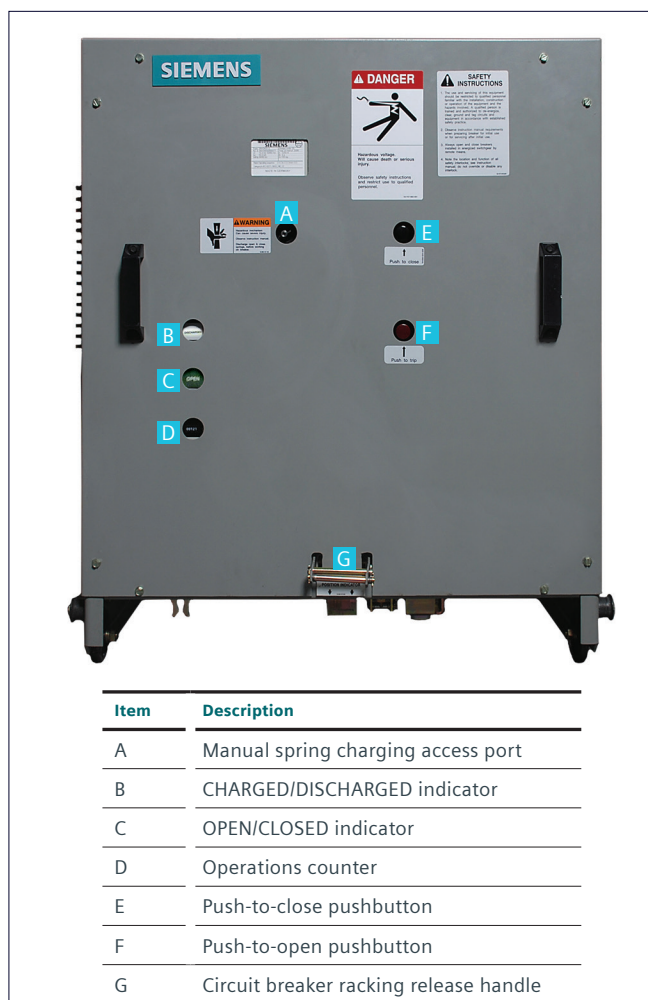

Figure 37: Front panel of type GMSG circuit breaker
Spring discharge check (refer to Figure 37: Front panel of type GMSG vacuum circuit breaker)
5. Depress and hold down the release latch handle (refer to Figure 37: Front panel of type GMSG circuit breaker) and pull the circuit breaker out from the DISCONNECT position. The circuit breaker is now free to be rolled out on the two extension rails using the handles on the front of the circuit breaker.